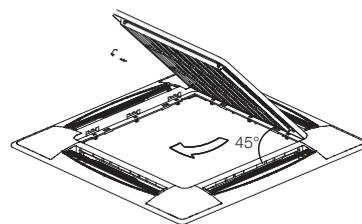

Fig.4-13
2) Draw the grill up to an angle of about 45, and remove it. (Refer to Fig.4-13)